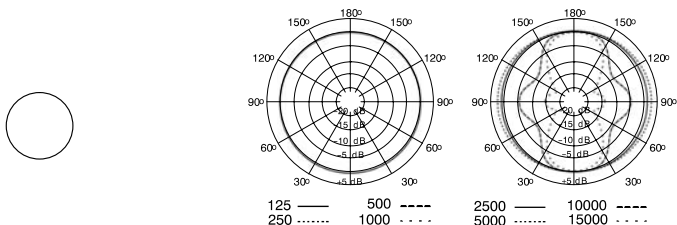

FIGURE 7. TYPICAL OMNIDIRECTIONAL POLAR PATTERN
**Omnidirectional.** Picks up sound equally from all directions. This pattern is best for picking up room ambience and miking several sources at once, such as a choir or ensemble. Omnidirectional patterns do not exhibit proximity effect. See Figure 7.